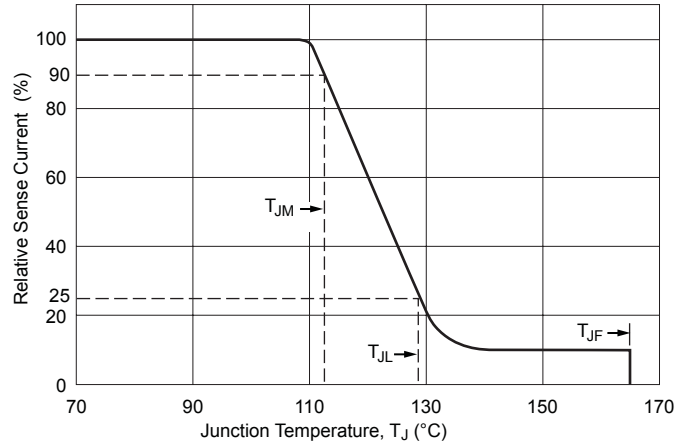

Figure 2. Temperature monitor current reduction.
**Temperature Monitor** A temperature monitor function, included in the A6269, reduces the LED current as the silicon junction temperature of the A6269 increases (see figure 2). By mounting the A6269 on the same thermal substrate as the LEDs, this feature can also be used to limit the dissipation of the LEDs. As the junction temperature of the A6269 increases, the regulated current level is reduced, reducing the dissipated power in the A6269 and in the LEDs. The current is reduced from the 100% level at typically 4% per degree Celsius until the point at which the current drops to 25% of the full value, defined at  $T_{JL}$ . Above this temperature the current will continue to reduce at a lower rate until the temperature reaches the overtemperature shutdown threshold temperature,  $T_{JF}$ .